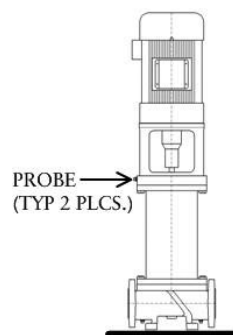

Figure 7: Correct Placement of Temperature Probes
8. Proper placement of any temperature probes should be at the top end of the pump unit casing in one of the provided ports. Ports will come from factory plugged. Proper temperature probe location is shown in Figure 7.